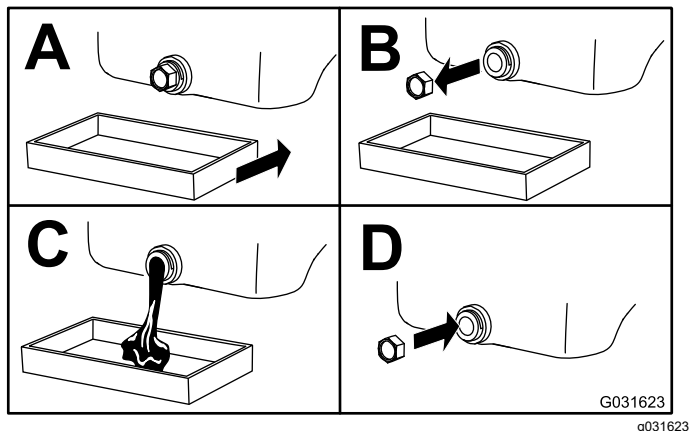

Figure 44
5. Change the engine oil as shown in Figure 44.